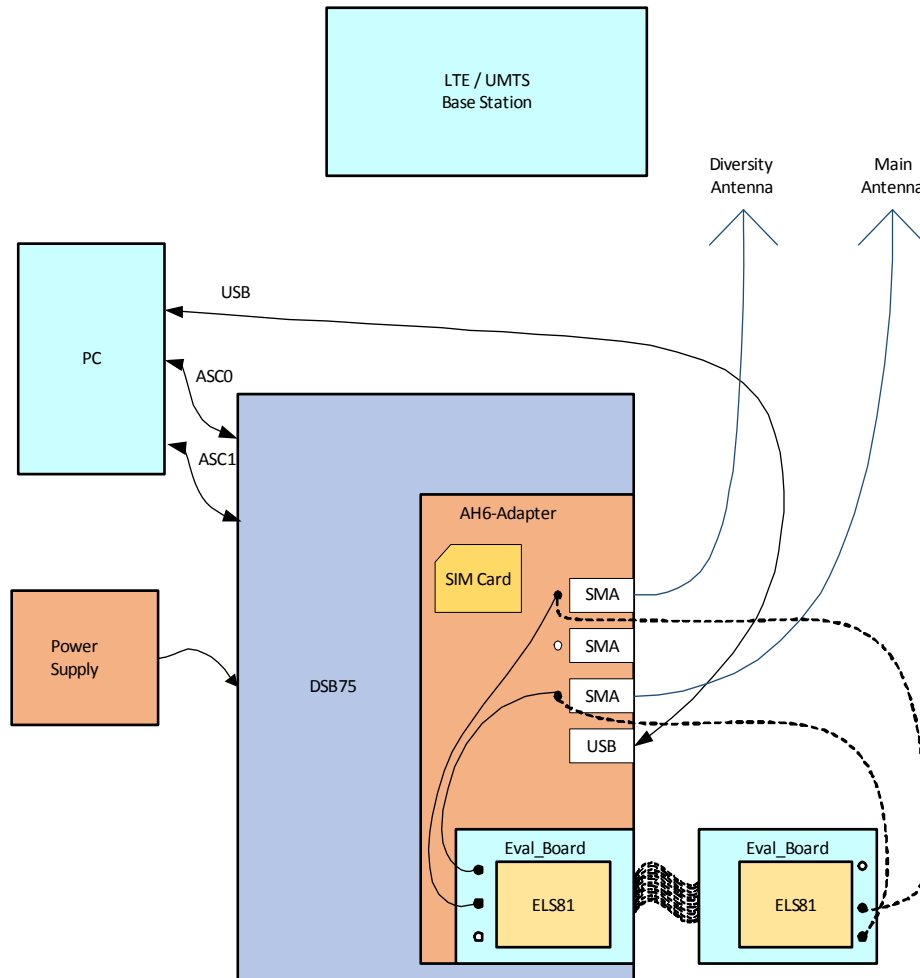

Figure 56: Reference equipment for Type Approval
1. For RF performance tests a mini-SMT/U.FL to SMA adapter with attached 6dB coaxial attenuator is chosen to connect the evaluation module directly to the UMTS test equipment instead of employing the SMA antenna connectors on the ELS81-US-DSB75 adapter as shown in Figure 56. The following products are recommended: